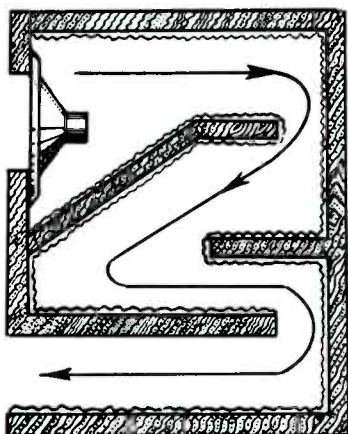

Fig. 2. This example of a combination enclosure, the acoustical labyrinth, increases low-frequency loading.
1. *The acoustical labyrinth.* This enclosure provides increased useful loading of the cone at low frequencies. It has the disadvantage of sharp drops in output at some frequencies. (See Fig. 2.)